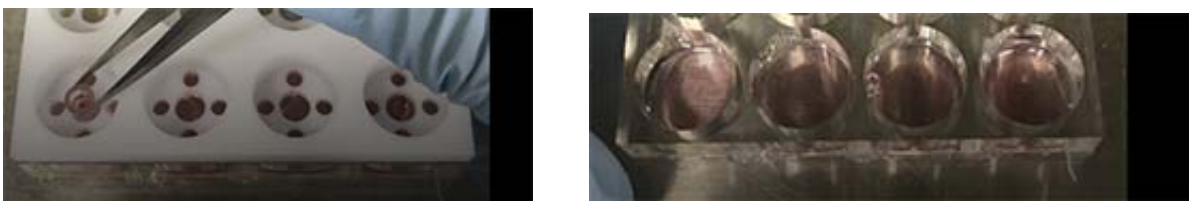
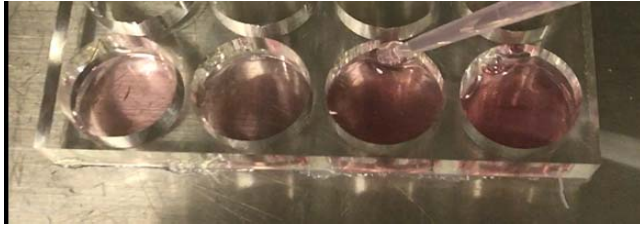

Figure 2-7. Remove the cloning rings (left), and then CellSpotter after removing all cloning rings.
Figure 2-8. Add 500 μ L of culture medium to each well.
9. Gently remove the cloning rings from all wells (Figure 2-8, left) and then remove the CellSpotter (Figure 2-7, right).